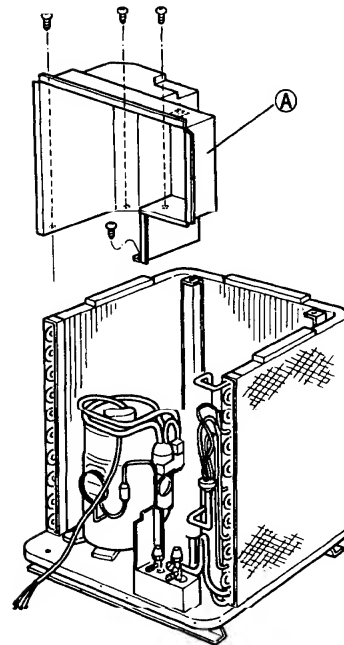

Fig. 12
Unfasten four screws fixing the cover (A). The cover can be removed by lifting it upward. Fig. 12.